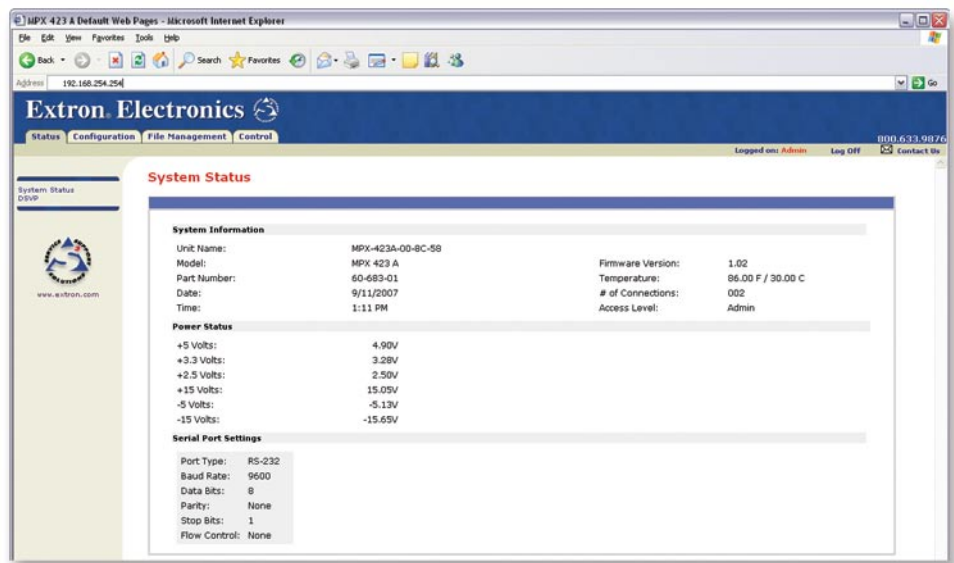

Figure 5-2 — System Status page
- c. **If neither of the above conditions is true**, the switcher downloads the factory-installed default start-up page, "nortxe_index.html" (figure 5-2), also known as the System Status page.
The System Status page (figure 5-2), is the default page of the on-board Web server, and provides an overview of the matrix switcher's status. It provides immediate system information, power status, and serial port settings for the MPX.